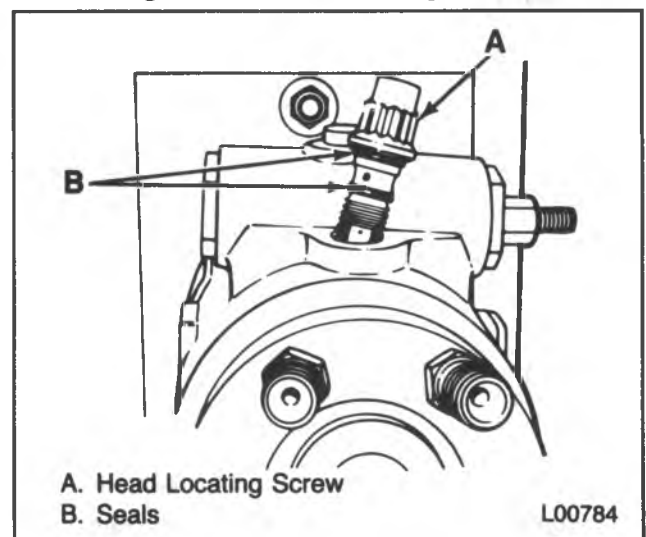

Figure 28 — Head Locating Screw
9. Head locating screw (A) and seals (B) (figure 28).
4. New seals (B) on the head locating screw (A) (figure 28).
5. Head locating screw (A) (figure 28).